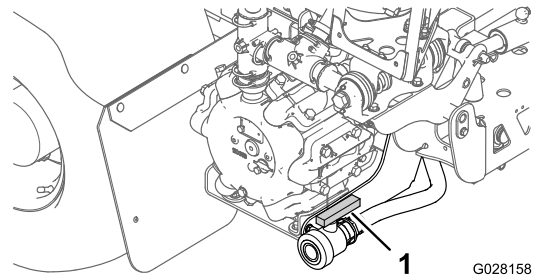

Figure 28
2. Locate the tank drain valve on the rear of the machine (Figure 28).